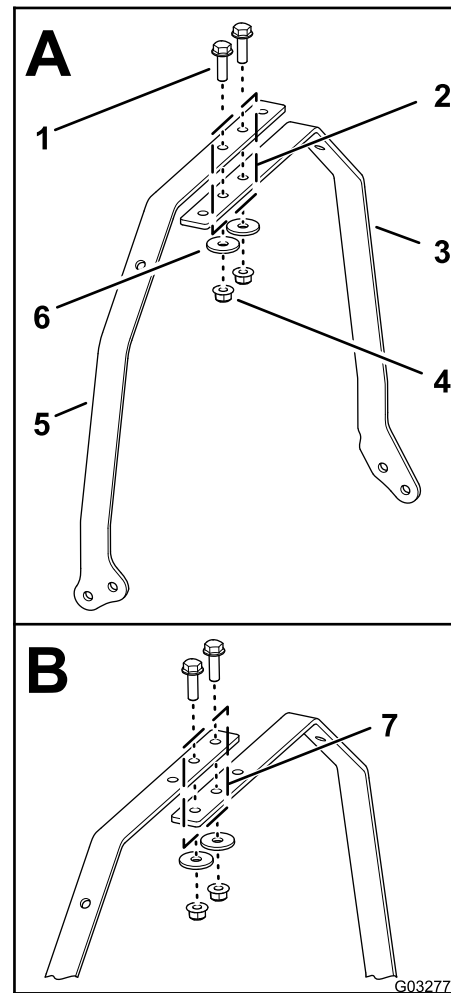

Figure 6
- **Flex and eFlex 1800 series machines**—align the 2 holes furthest from the straight ends of the left light-bar strap and the right light-bar strap (A of Figure 6).
- **Flex and eFlex 2100 series machines**—align the 2 holes closest to the straight ends of the left light-bar strap and the right light-bar strap (B of Figure 6).